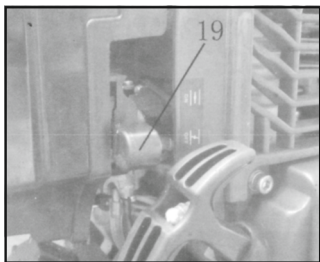

Fig. 5
1. Before starting a new machine or one that has been sitting idle, repeatedly press the transparent Primer Bulb (see Fig. 5) until it is fully filled with fuel. This ensures the carburetor is properly primed for ignition.